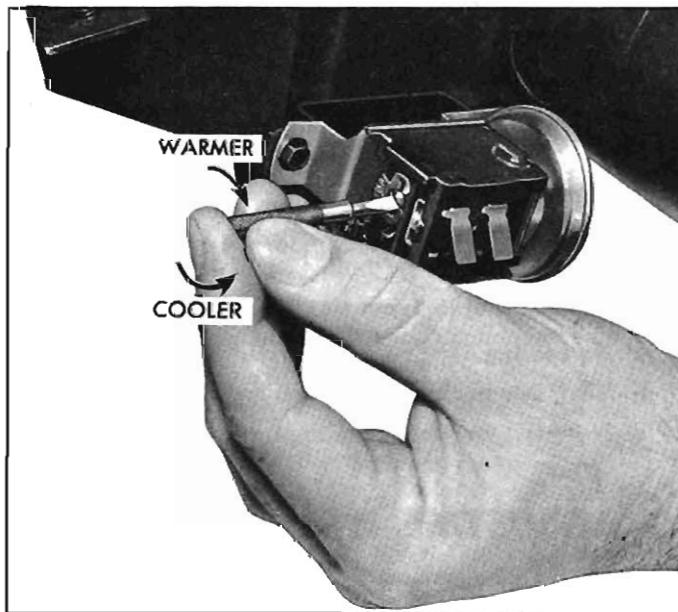

Fig. 11-15—Thermostatic Switch Adjustment
3. Carefully remove the fiberboard cover by sliding it toward the left side of the vehicle. Using a small screwdriver, turn the adjustment screw (fig. 11-15) back and forth to check its performance. Use of a small mirror may aid in locating the adjustment screw.